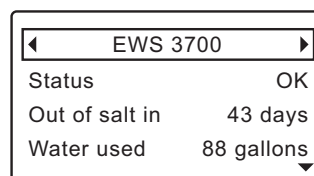

FIG. 61
1. Press the remote's LEFT (◀) or RIGHT (▶) buttons to manually advance to the **EWS 3700** status screen (See Figure 61).